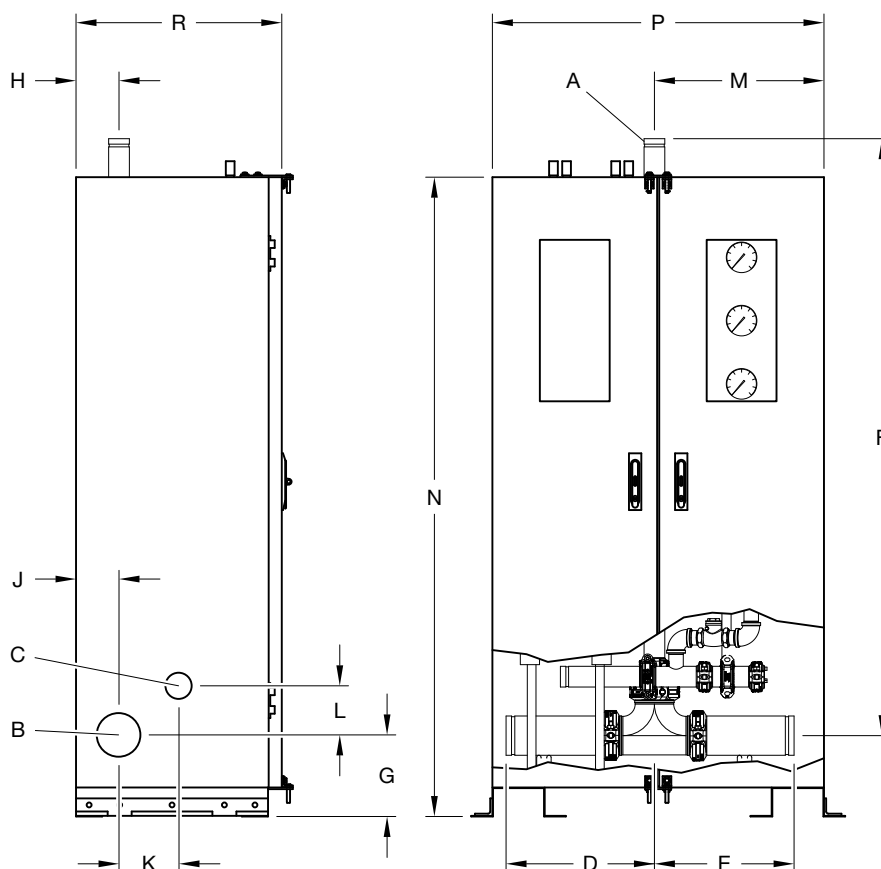
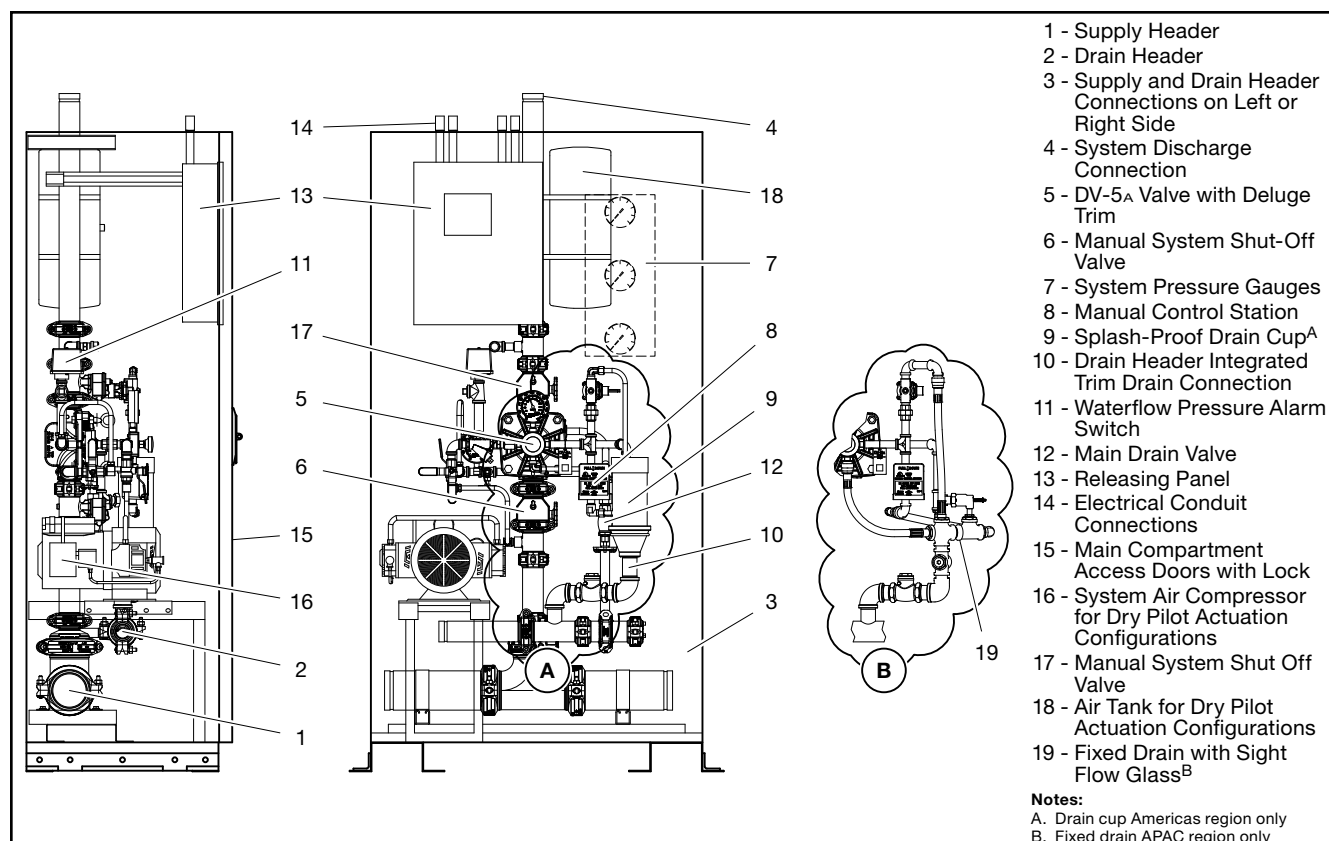

FIGURE 1
FIGURE 2
Red-E Cabinets available in the Americas region feature a splash-proof drain cup, see arrangement A in Figure 2. Red-E Cabinets available in the APAC region feature a fixed drain piping assembly, see arrangement B in Figure 2. Both allow observation of drain discharge during flow testing while preventing water from splashing into the cabinet.
Figure 1 provides dimensional information for Red-E Cabinets, and Figure 2 illustrates the typical assembly arrangement.
- Installation of a suitably sized water supply to the water supply header (Port B, Figure 1)
- Installation of system piping (Port A, Figure 1) including open nozzles and/or sprinklers from the Red-E cabinet outlet
- Installation of drains from main drain header (Port C, Figure 1)